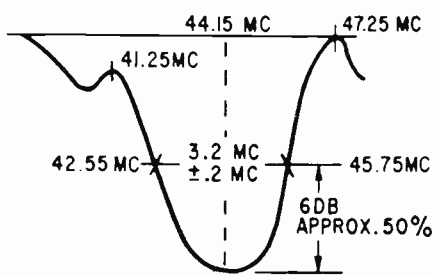

Fig. 2
10.	If necessary, repeat steps 6 through 8 to obtain response curve of Figure 2.
9.	If necessary, repeat steps 6 through 8 to obtain response curve of Figure 2.